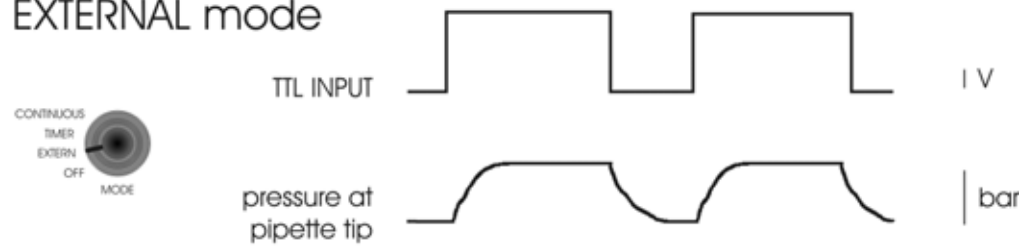

Figure 3: PDES remote control
Connector for the REMOTE CONTROL unit (see Figure 3)
- ❑ REMOTE control: The selected operating mode determines the way the REMOTE control (see Figure 3) works.